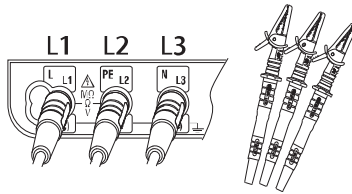

Fig. 46
- ▲ If earth resistance of auxiliary earth spikes is too large, it may result in inaccurate measurement. Make sure to stick the auxiliary earth spike and H(C) into the moist part of the earth carefully, and ensure sufficient connections between the respective connections. High auxiliary earth resistance may exist if “ $R_S$  Hi” or “ $R_H$  Hi” is displayed during measurements.
2. Insert the Test Leads into the instrument. (Fig.46)